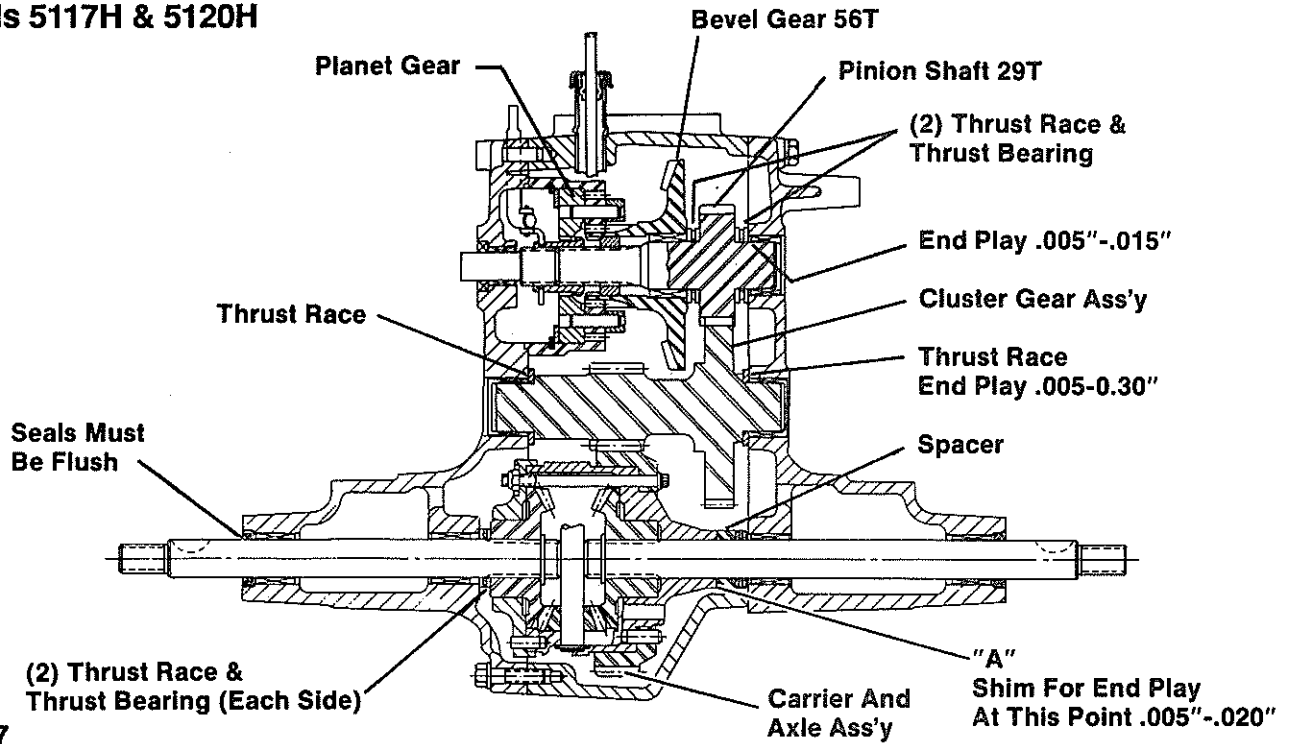
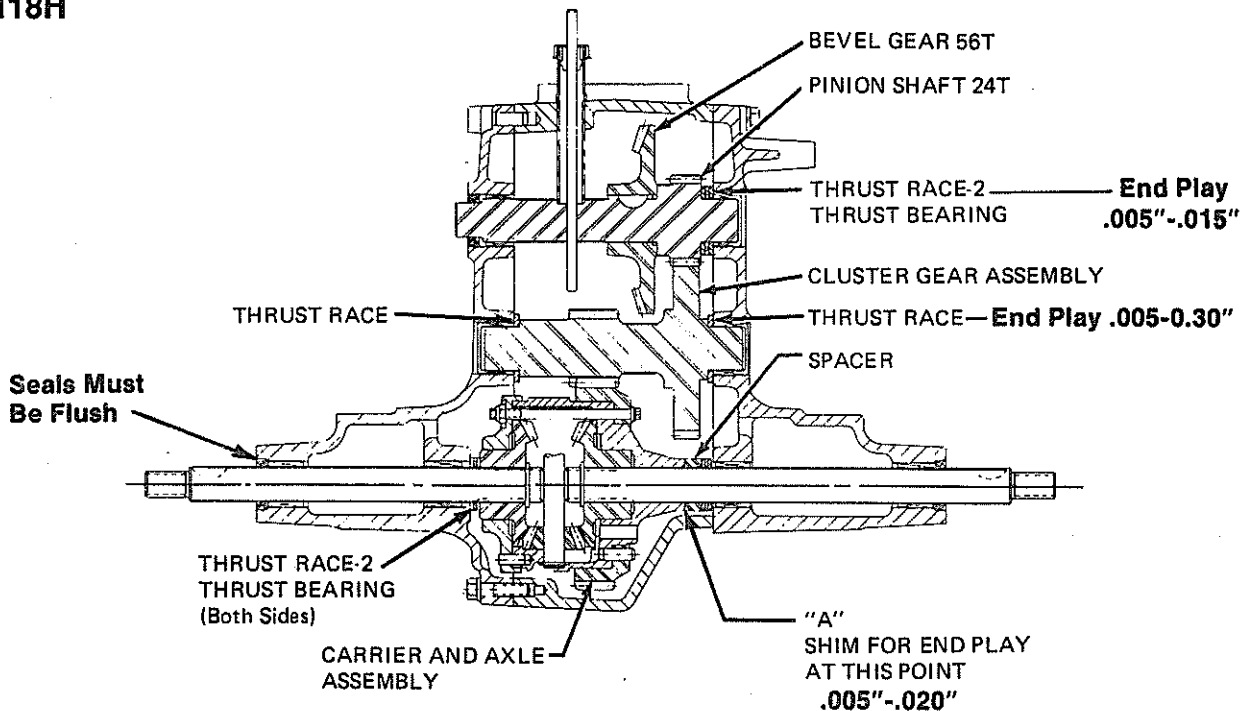

Fig. 3-17
Fig. 3-18
8. Install the reduction gear assembly by first lifting the pinion assembly and meshing the reduction gear assembly in place between the pinion gears and the differential bull gear, as shown. Make sure all shims and washers are on the ends of all shafts as they were when removed. See Figs. 3-17 & 3-18 for reference. The right side of the pinion shaft must have a thrust bearing assembly. The cluster gear must have a thrust washer. The axle shaft must have a spacer and Torrington bearing assembly (Fig 3-18).
11. Install right-hand cover and check for end-play. Refer to Figs. 3-17 and 3-18 for end-play specifications.